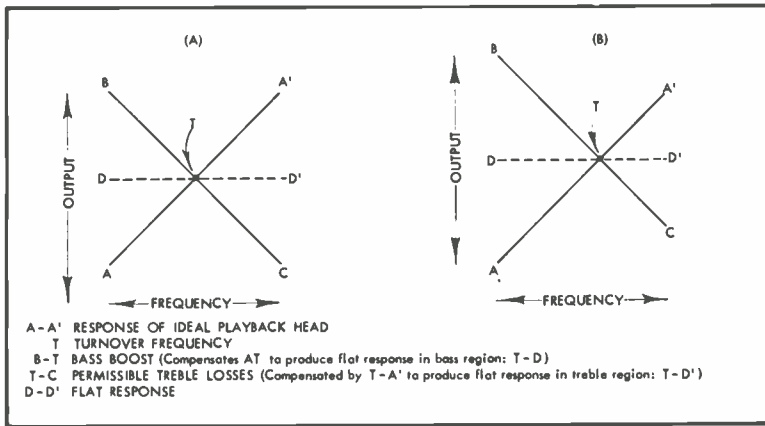

Fig. 7. Patterns of equalization in a tape machine.
This may be explained with the aid of Fig. 7. Output voltage of an ideal playback head rises steadily with increasing frequency, as shown by curve A-A'. This upward sloping line may be viewed as either treble boost or bass cut, depending upon our standard of reference, namely the turnover frequency, which is labeled T. The portion of the line above T may be said to represent treble boost, while the portion below T represents bass cut.
(B) in Fig. 7 represents a different pattern of equalization, one with a high turnover frequency. Consequently the playback head supplies less treble boost compared with the scheme of things in (A). This signifies that less treble loss is permissible in recording, thereby necessitating more treble boost in recording and greater distortion. (On the other hand, the equalization pattern of (B) permits a better signal-to-noise ratio because more signal is recorded on the tape and because there is greater de-emphasis of the treble frequencies—the noise region—in playback.)